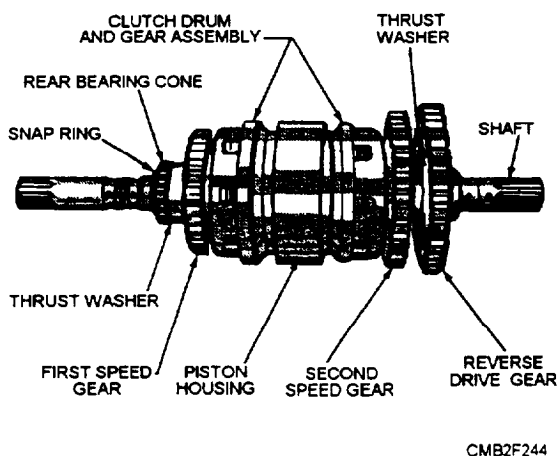

Figure 6-3.—Forward clutch shaft.
- The FORWARD CLUTCH SHAFT (fig. 6-3) rotates on straight roller bearings at the rear and ball bearings at the front, with the reverse drive gear keyed to the front of the shaft. As with the reverse clutch shaft, the forward clutch shaft consists of first and second speed drive gears riding on bushings and is welded to the dual hydraulic clutch pack assemblies.